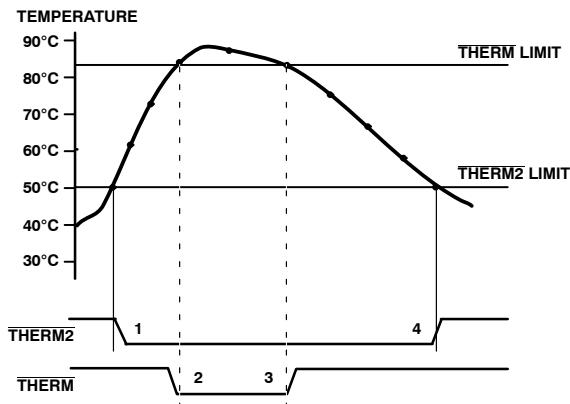

Figure 21. Operation of the $\overline{\text{THERM2}}$ and $\overline{\text{THERM}}$ Interrupts
Figure 21 shows how $\overline{\text{THERM}}$ and $\overline{\text{THERM2}}$ might operate together to implement two methods of cooling the system. In this example, the $\overline{\text{THERM2}}$ limits are set lower than the $\overline{\text{THERM}}$ limits. The $\overline{\text{THERM2}}$ output could be used to turn on a fan. If the temperature continues to rise and exceeds the $\overline{\text{THERM}}$ limits, the $\overline{\text{THERM}}$ output could provide additional cooling by throttling the CPU.
3. The $\overline{\text{THERM}}$ output deasserts (goes high) when the temperature falls to $\overline{\text{THERM}}$ limit minus hysteresis. No hysteresis value is shown in Figure 21.